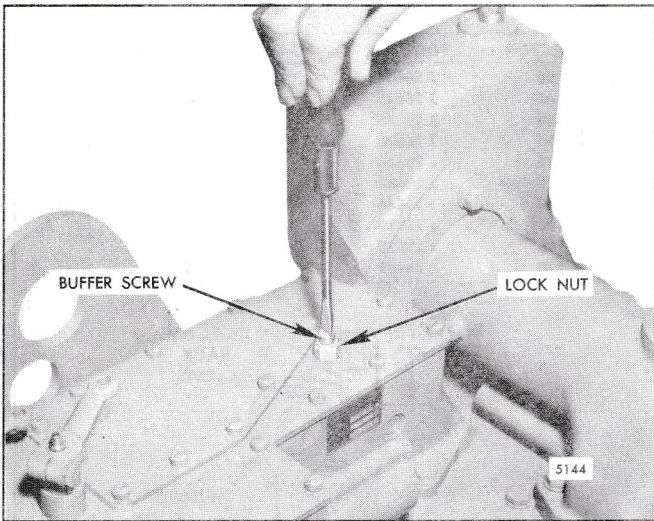

Fig. 10 – Adjusting Buffer Screw
1. With the engine running at normal operating temperature, *turn the buffer screw (Fig. 10) IN* so that it contacts the right bank operating lever as lightly as possible and still eliminates engine roll. Do not increase the engine idle speed more than 15 rpm with the buffer screw.